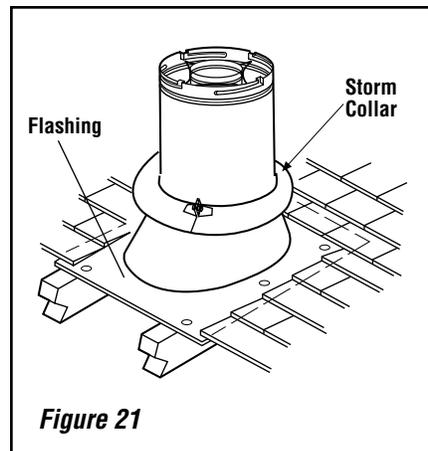

Figure 21
G. Continue installation of horizontal/inclined sections—Continue with the installation of the straight vent sections in horizontal/inclined run as described in **Step C**. Install support straps every 3 ft (914 mm) along horizontal/inclined vent runs using conventional plumber's tape. **See Page 27, Figure 21. It is very important that the horizontal/inclined run be maintained in a straight (no dips), slightly elevated plane.** The recommended incline is approximately 1/4" per foot (20 mm per meter) horizontal, in a direction away from the fireplace. The rise per foot run ratios that are smaller are acceptable all the way down to at or near level. Use a carpenter's level to measure from a constant surface and adjust the support straps as necessary.
I. Install the roof flashing—Extend the vent sections through the roof structure. Install the roof flashing over the vent section and position such that the vent column rises vertically (use carpenter's level) (**Figure 21**). Nail along perimeter to secure flashing or adjust roofing to overlap the flashing edges at top and sides only and trim where necessary. Seal the top and both sides of the flashing with waterproof caulking.
J. Install the storm collar—Install the storm collar, supplied with the flashing, over the vent/flashing joint (see **Figure 21**). Loosen the storm collar screw. Slide collar down until it meets the top of the flashing. Tighten the adjusting screw. Apply non-combustible caulking or mastic around the circumference of the joint to provide a water tight seal.